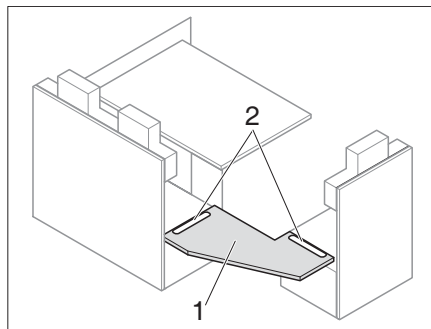
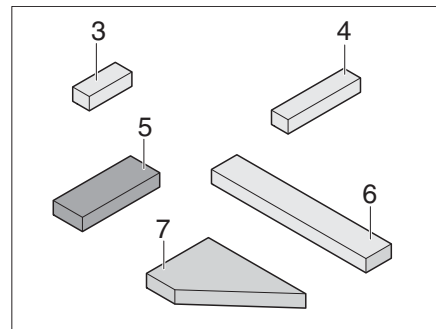
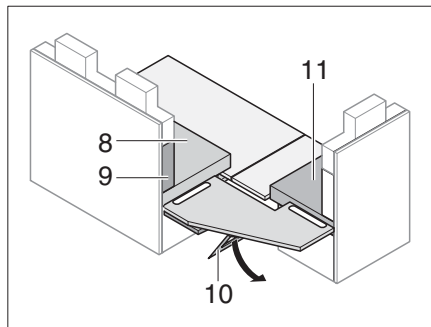
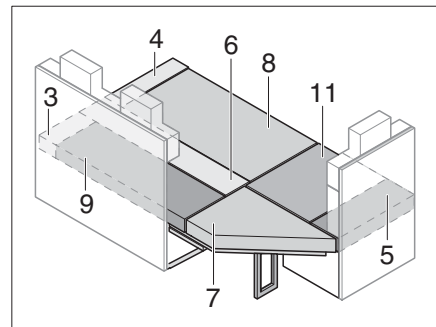

Fig. 161 Inserting the reinforcement panel
Fig. 162 Additional cushion
Fig. 163 Supporting reinforcement panel
Fig. 164 After conversion
- Insert the reinforcement panel (Fig. 161,1) into the grooves (Fig. 161,2).
- Fold out the support (Fig. 163,10) under the reinforcement panel (Fig. 161,1).
- Lay on the seat, backrest and additional cushions as shown in Fig. 164 (the item numbers refer to Fig. 162 and Fig. 163).
- Fold out the bench seat extensions (Fig. 161).